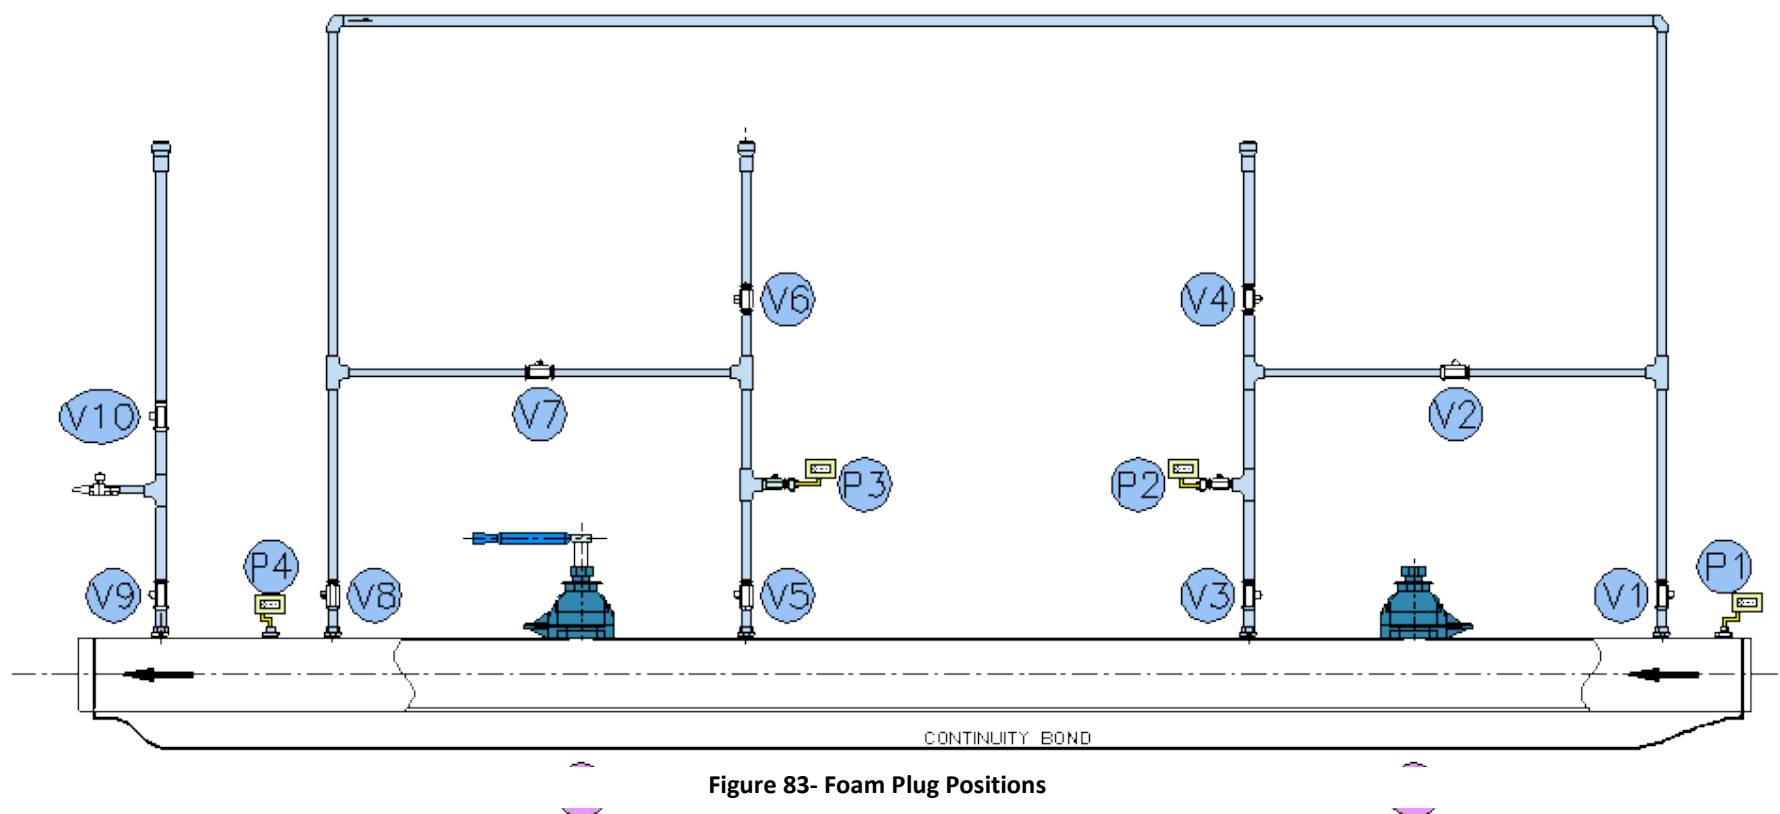

Figure 83- Foam Plug Positions
10. Ref to Figure 83 and mark the positions of the drillings on the main.
1. Install metallic vent stacks with flame traps as per Figure 83.